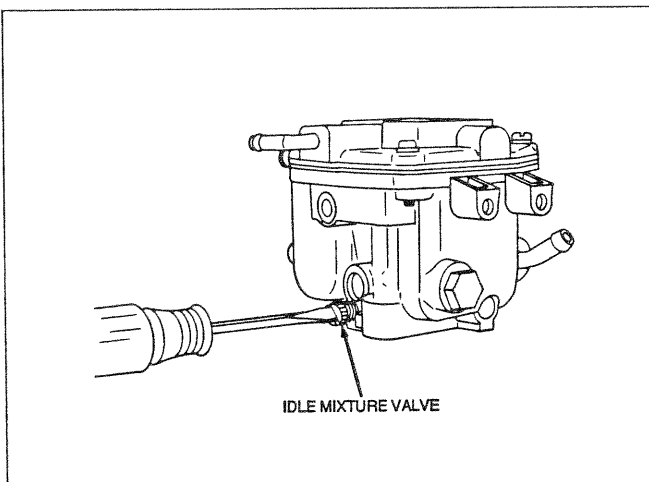
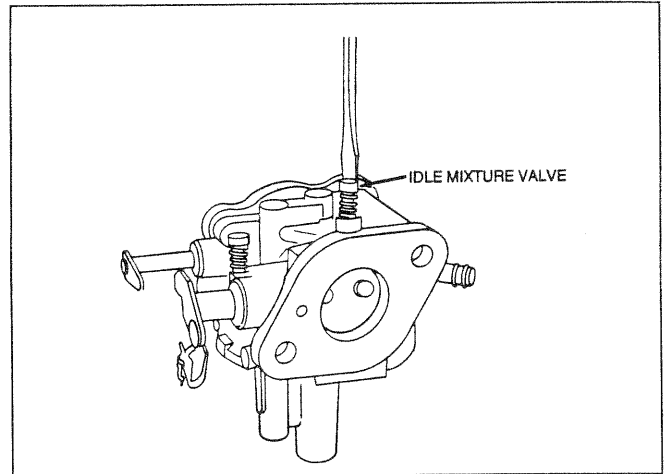

Figure 170. Horizontal Crankshaft Models
Figure 171. Vertical Crankshaft Models
NOTE: The above procedure applies to horizontal crankshaft models (Figure 170) and vertical crankshaft models (Figure 171). For units equipped with automatic idle control, refer to "Automatic Idle Control" in this section.
- Turn the idle mixture valve on carburetor clockwise until it just bottoms. DO NOT FORCE. (See Figure 170 on Page 61.)
- Turn the carburetor idle mixture valve clockwise (leaner) until engine speed slows (Figure 170 on Page 61). Then, turn the idle mixture valve counterclockwise (richer) until engine again slows. Finally, turn the valve to its midpoint between the two previous settings.